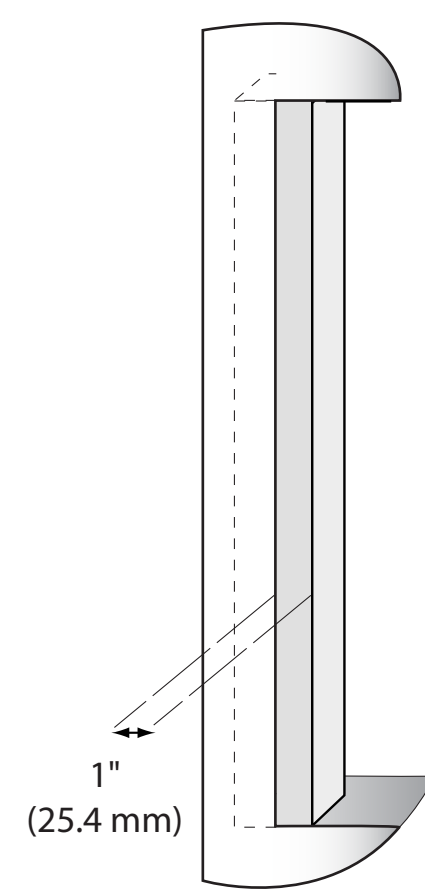
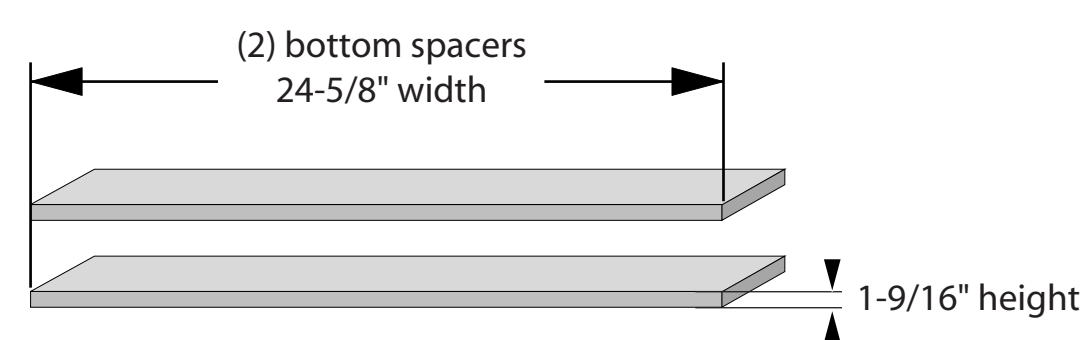

FIGURE 1
FIGURE 2
3. Install two Side Spacers (see FIGURE 1) and two Bottom Spacers (see FIGURE 2) as specified in FIGURE 4.